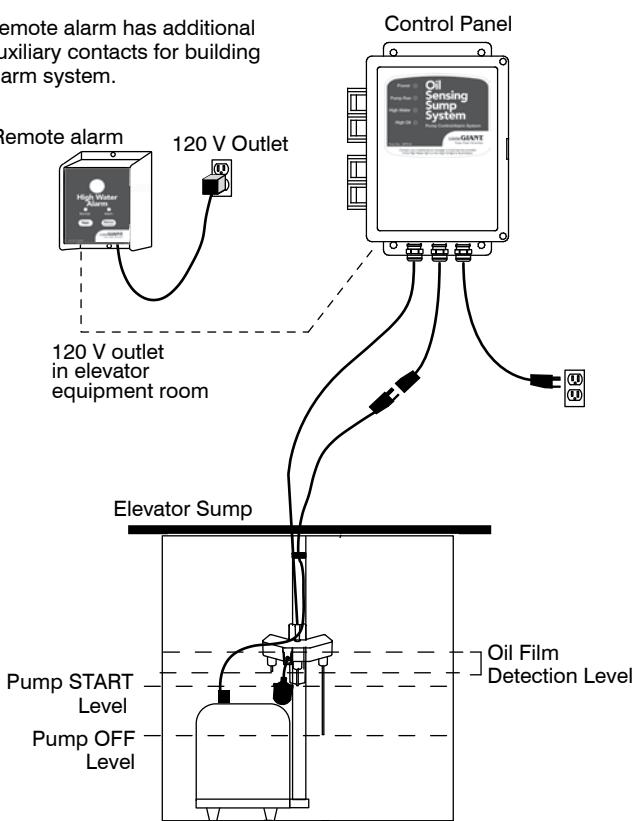

FIGURE 1
1. Choose a mounting location for the control panel (Figure 1), ensuring that it is within 6 feet of an electrical outlet.
### POUR UNE POMPE SUBMERGÉE (FIGURE 1) :